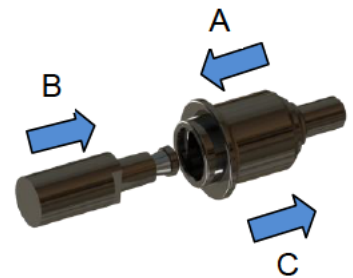

Figure 2: Sequence HU coupling
By pressing the sliding ring (A) the lock is opened and the instrument can be inserted (B). Then release the sliding ring (C) and check that the instrument is firmly seated (see Fig. 2).